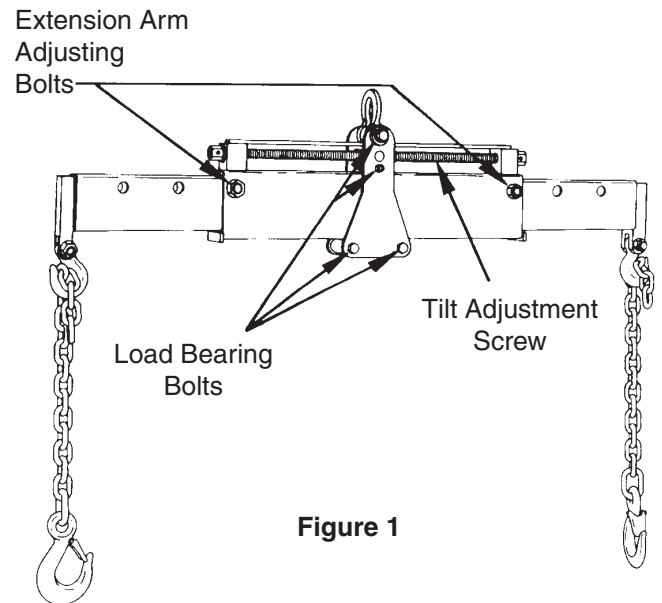

Figure 1
3. Verify the bolts holding the extension arms are securely fastened. See Figure 1.
1. Regularly clean and lubricate the tilt adjustment screw. See Figure 1.
2. Keep the four load bearing bolts fastened securely. See Figure 1.